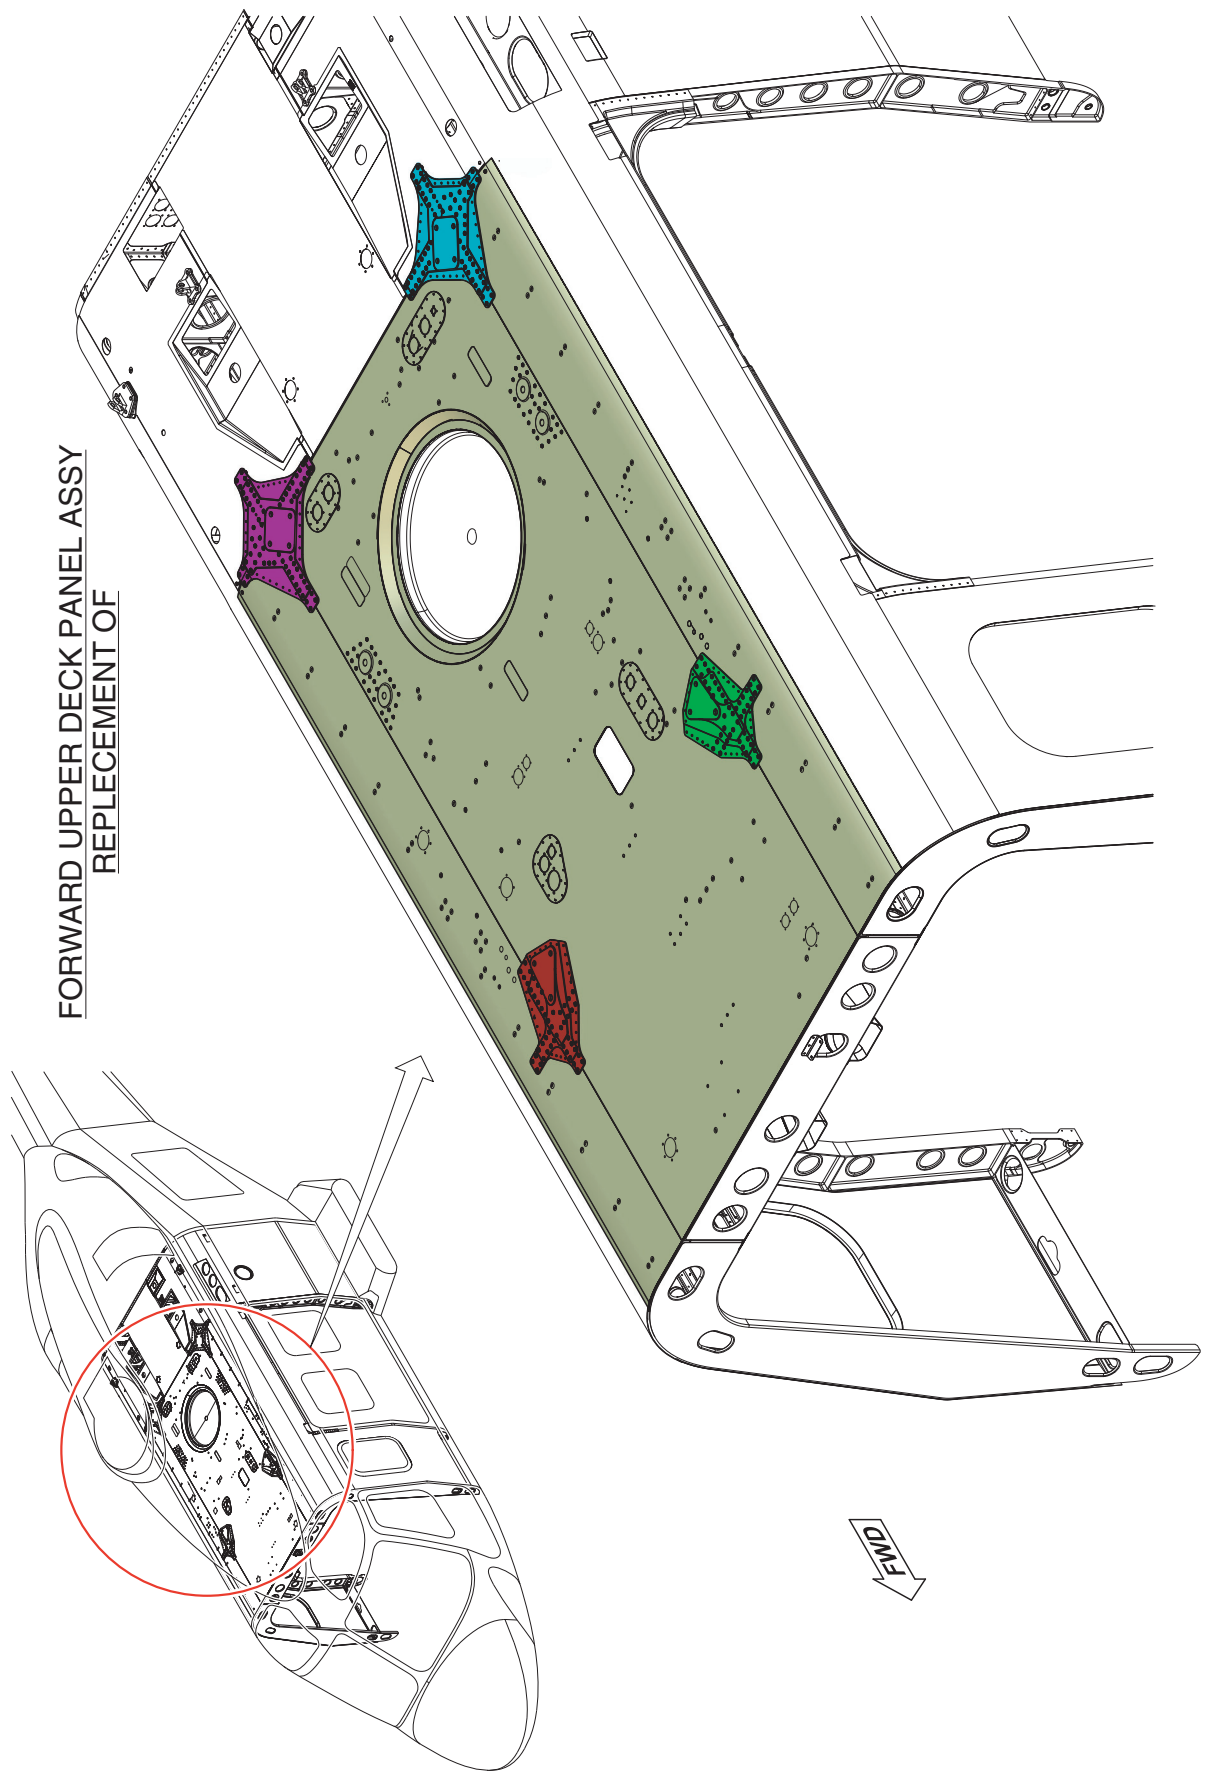

Figure 1
2. In accordance with AMP and with reference to Figures 1 thru 12, gain access to the area affected by the installation.